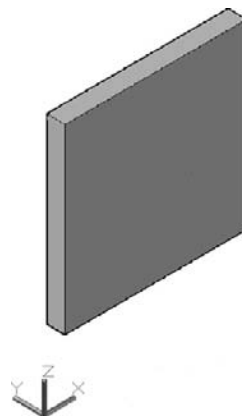

FIGURE 23.2
Step 5. Here, you can enter any numerical value, but let us stay with 90° for now. Type in 90 and press Enter. The plate rotates 90° around the X axis and stands on its end, as in Figure 23.2.
In the same exact manner, practice rotating the plate around the other axes. From where it is right now in Figure 23.2, a rotation around the Z axis makes it face the lower left side of the page. A rotation around the X axis makes it lay down flat again, and a rotation around the Y axis produces no visible results, aside from a possible shift in position, as the plate is a perfect 10" × 10" square.